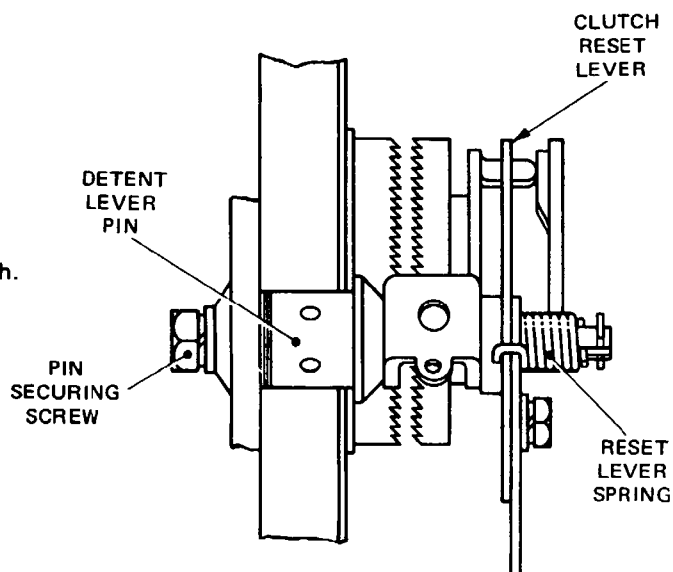

Fig. 4.50 CLUTCH DETENT LEVER MECHANISM (LEFT-HAND SIDE VIEW)
- 53.2 To adjust, slacken the screw securing the detent lever pin, Fig. 4.50, and turn the pin to correct the pressure. Tighten the screw.